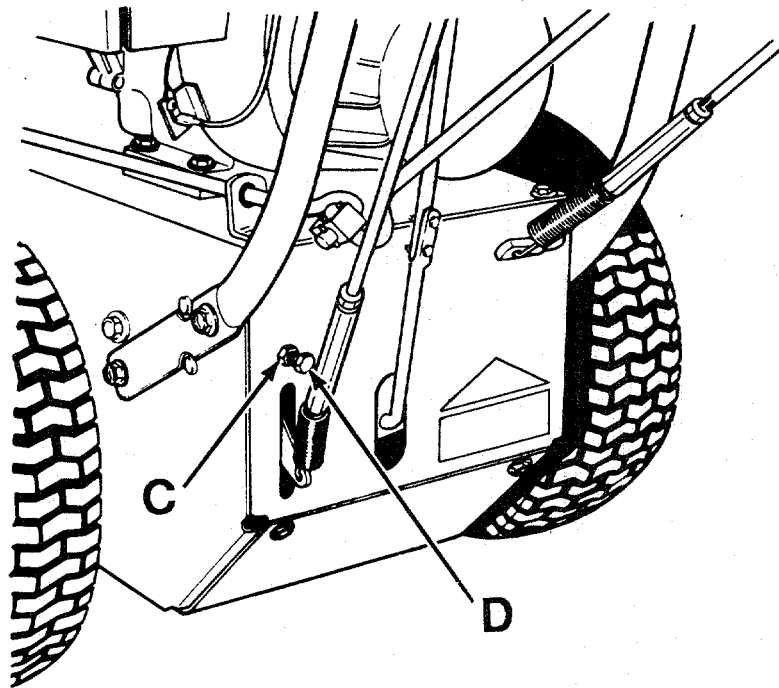

Fig. 6-13
- A. Loosen jam nut (C, Fig. 6-13). Turn adjusting screw (D) until clearance is correct.